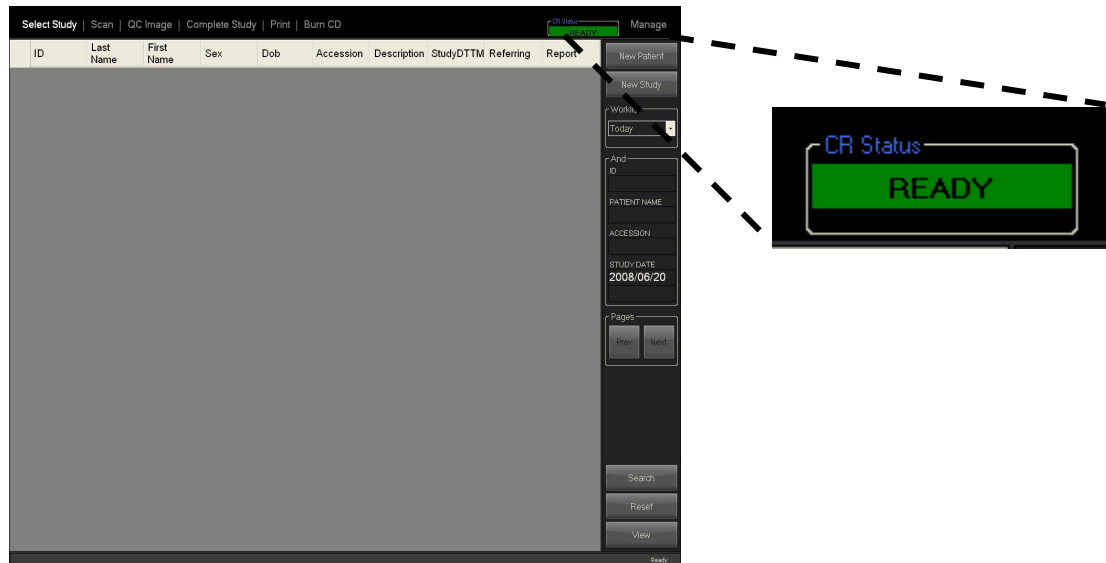

Figure 3
3. Verify that Scanner Status is lit green with **READY**. (Figure 3)